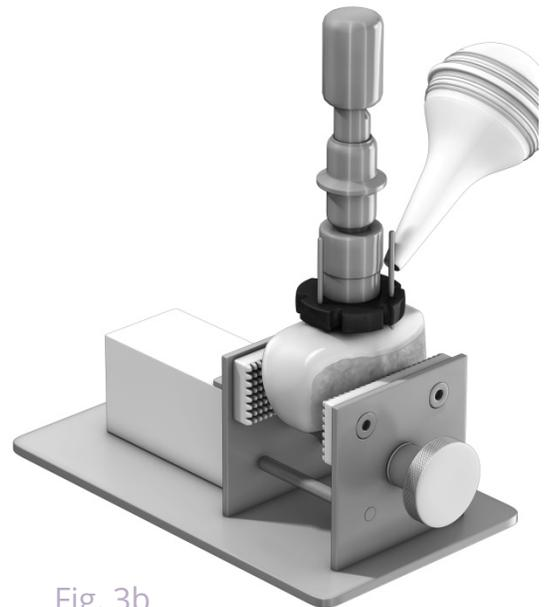

Fig. 3b
**Step 10:** With constant irrigation, slowly advance the coring reamer into the allograft approximately 25mm. (There is a 25mm depth marking on the reamer.) Do not advance the coring reamer completely through the allograft. While continuing irrigation and forward rotation of the coring reamer, slowly back the reamer out of the allograft. (Fig. 3b)